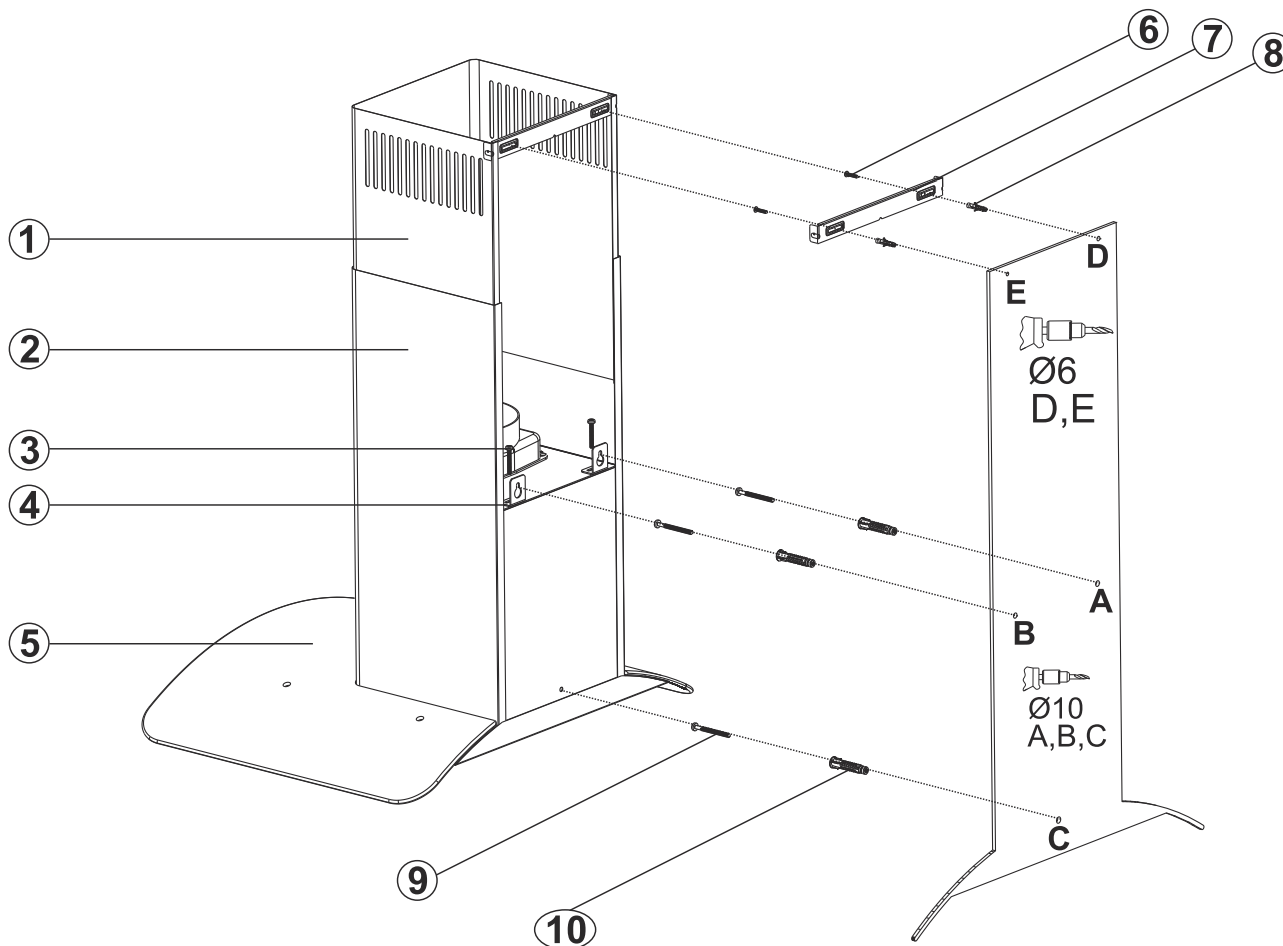

Fig. 12
2. ➤ Affix the assembly pattern on the wall at the specified height (See the minimum and maximum distances intended for the worktop, in the assembly pattern) and drill holes A, B and C with the dimensions specified in the template (Fig. 12).
3. ➤ Insert Ø 10mm wall plugs into the holes drilled as A, B, C, D, and screw down the 5.5 x 60 screws (9) at the points A + B, in such a way as to remain 5mm space between the screw head and the wall (Fig. 12).
4. ➤ Affix the hanging plates of the cooker hood on the body of the cooker hood with M5x35 bolt (3) (Fig. 12).
5. ➤ Hang the hood from its hanging plates on the wall at points (A, B). If the hood is not parallel, position its shape to parallel by tightening or loosening M5x35 screw (3).